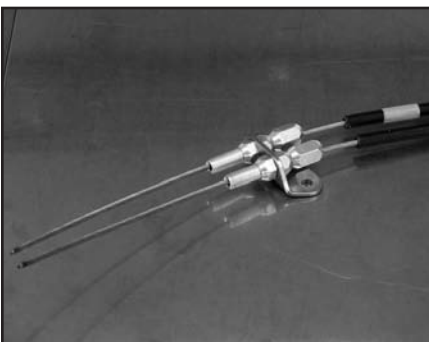

Figure 8
- Slide the Housing End Adjuster over the two inner cables, until it bottoms out against the cable covers, Figure 8. Remove tape from cable covers and slide ferrules into the Housing End Adjuster, Figures 9 and 10. **NOTE:** Put a little red Loctite® 271 on ferrule before inserting to help hold it in position.